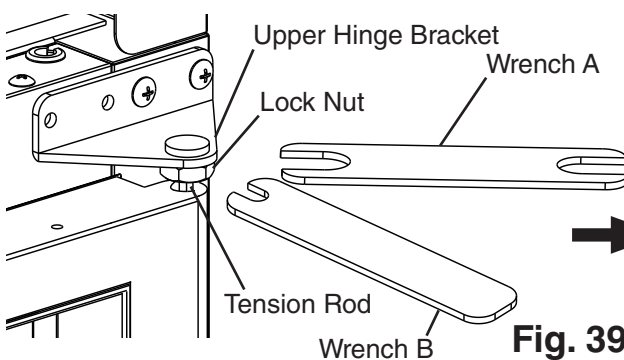

**Fig. 37**
- 2) Remove the front panel, then being careful not to pull the wires on the control module and door switch(es), remove the control panel. Secure the control panel so that it does not interfere with the hinge bracket and will not fall. See Fig. 37.